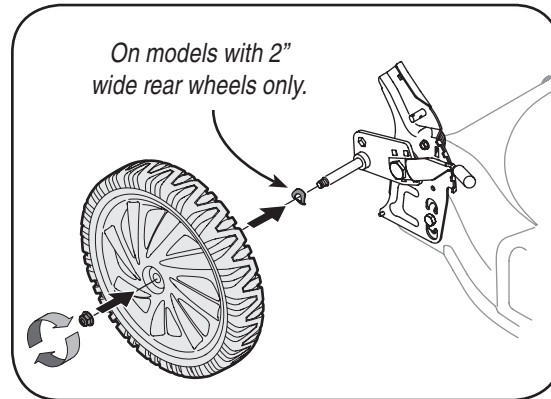

Figure 1
- On models with 2" wide rear wheels, make sure the spring washer is on the inside of the wheel between the wheel and the lawnmower, cupped side towards the bracket. See Figure 1.